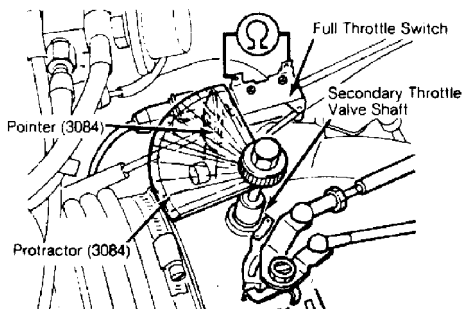

Fig. 16: Adjusting System Pressure
1) Check and note existing pressure. Remove pressure regulating valve from fuel distributor. See Fig. 16.